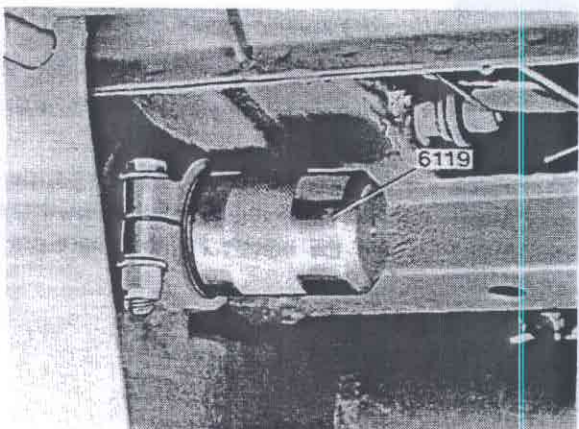

Fig. 64-6. Fitting the sealing ring
4. Knock the sealing ring in with sleeve 6119, see Fig. 64-6.